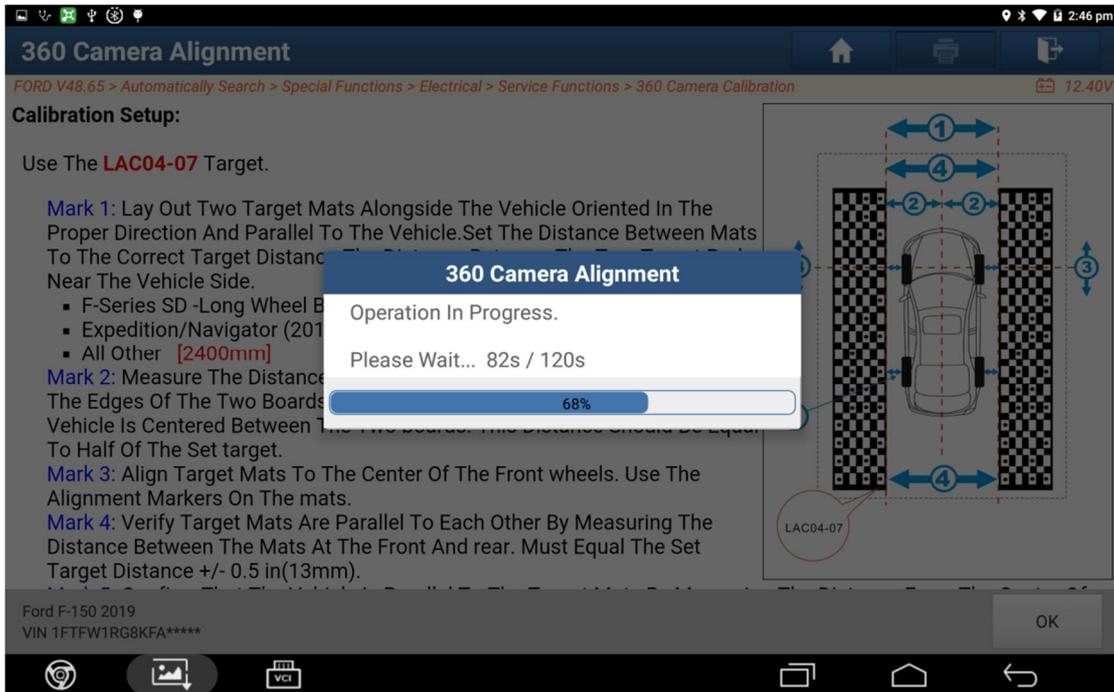

Figure 13
12. Prompt to start calibration (Figure 13).